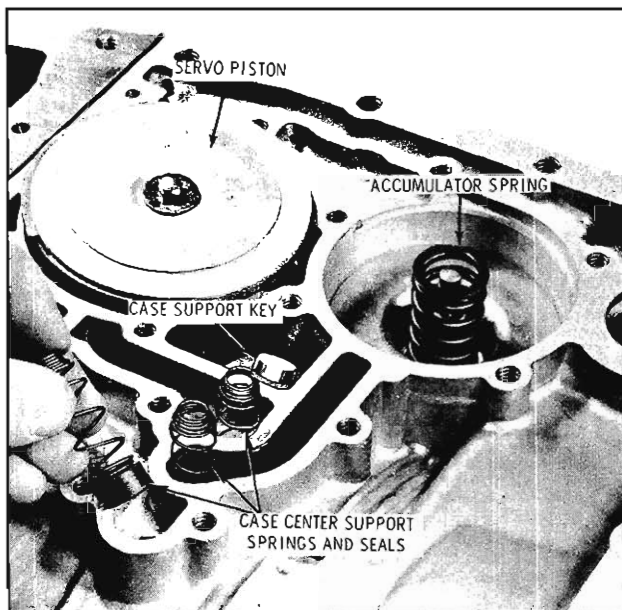

Fig. 6-24 Accumulator and Servo
12. Remove the servo piston assembly and the servo release spring from bore in case. (Fig. 6-24)
13. Remove the lower accumulator spring and piston. (Fig. 6-24)